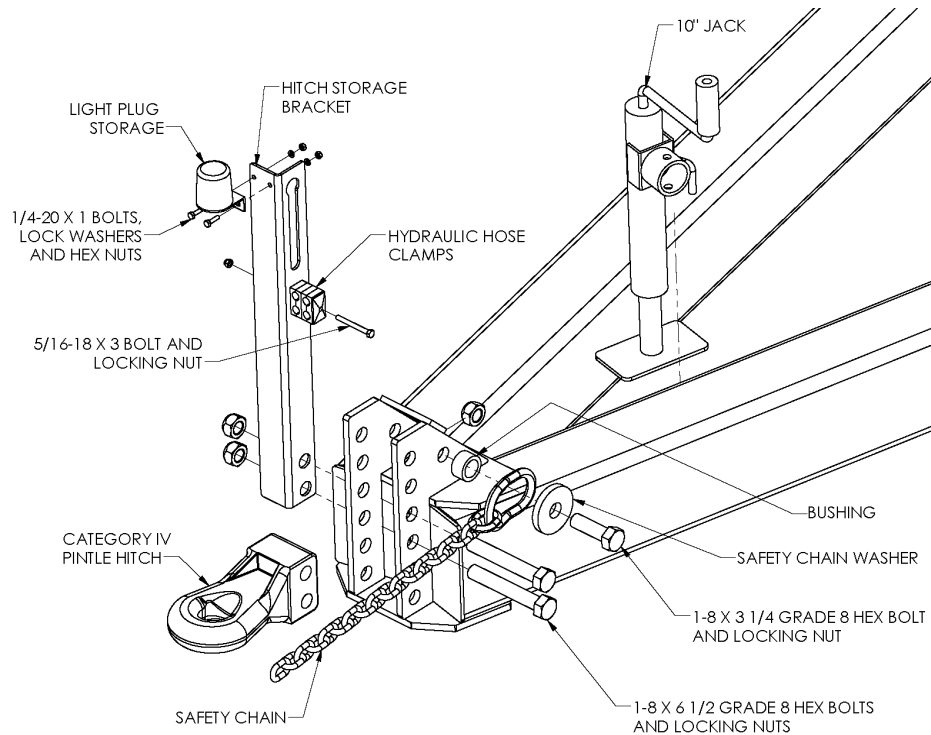

Figure 2
4. Refer to Figure 2. Attach the 10" jack to the A-frame. Attach the base hitch and the hitch storage bracket using the 1" x 6 1/2" grade 8 bolts and locking nuts.